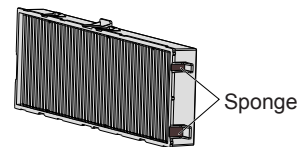

Fig. 2
- Take care not to remove the sponge (Fig. 2) on the side of the air filter unit when attaching the air filter unit.